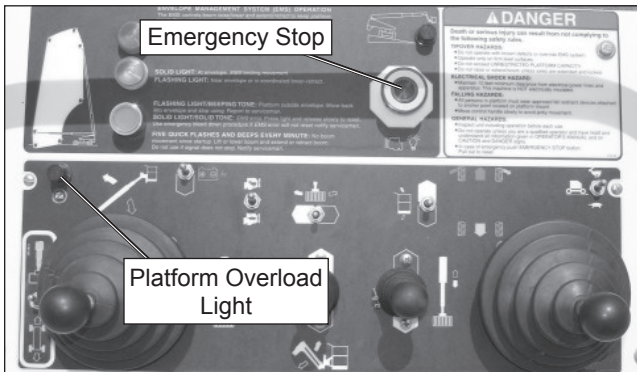

Figure 8.5 – Upper Controls
4. Pull the emergency stop outward (refer to Figure 8.5).